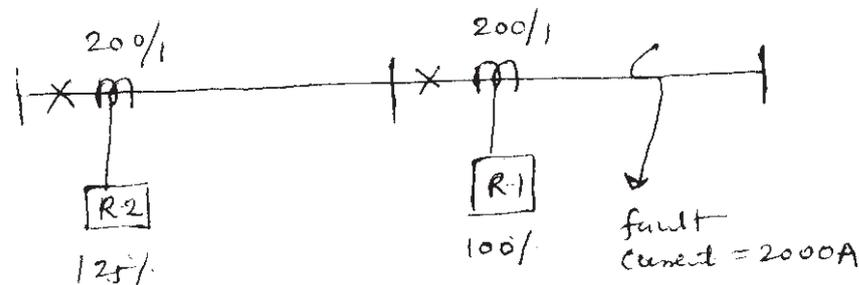

Fig. 1
- Q6)** a) It is given that fault current is 2000 Amp. The relay 1 is set for 100%. The CT ratio is 200/1. The relay 2 is set for 125% for discrimination the time gradient margin between the relays is 0.5 second. Determine time of operation of the two relays if TSM for relay 1 is 0.2. Also find TSM for relay 2. From IDMT curve (Ref. Fig. 1) [8]